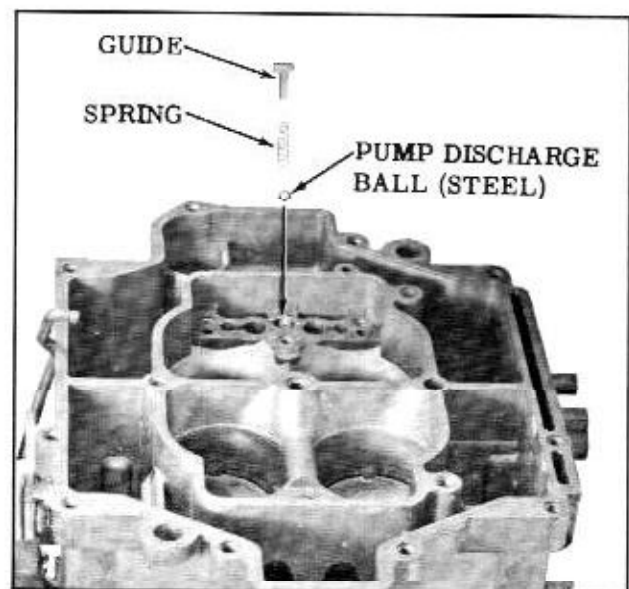

Fig. 8-100 Pump Discharge Spring Guide
14. Remove the small "T" shaped pump discharge spring guide with needle nose pliers, then remove the small spring and steel ball. (Fig. 8-100)